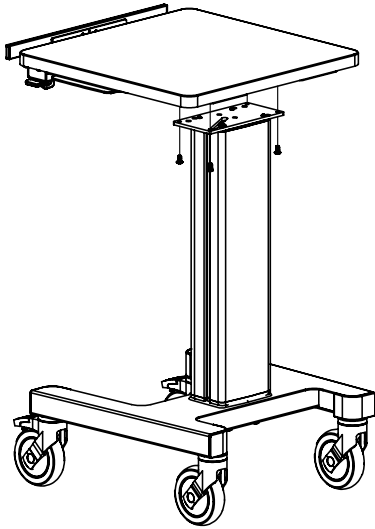
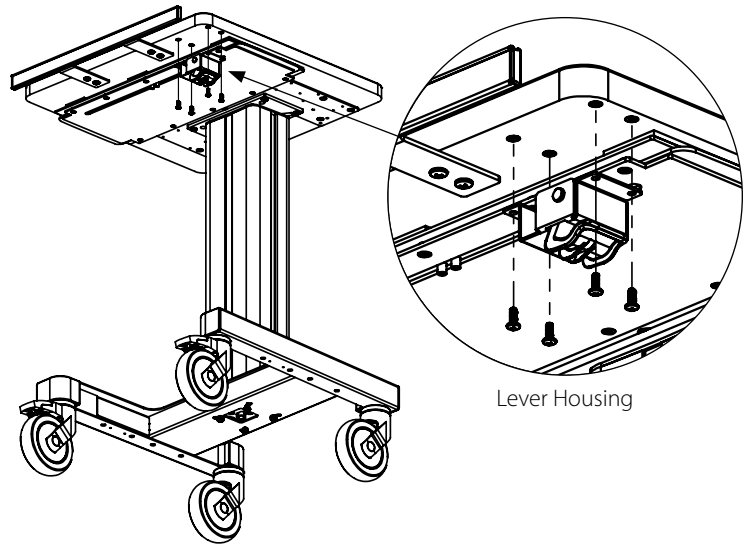

Figure 4
Figure 5
4. **Laptop Model:** Place the worktop (**Box 2/2**) on the column top plate and fasten four 1/4 - 20 x 3/8" long screws (**Figure 4**). Fit the lever housing to the worktop with four 1/4 - 20 x 1/2" long screws (**Figure 5**).